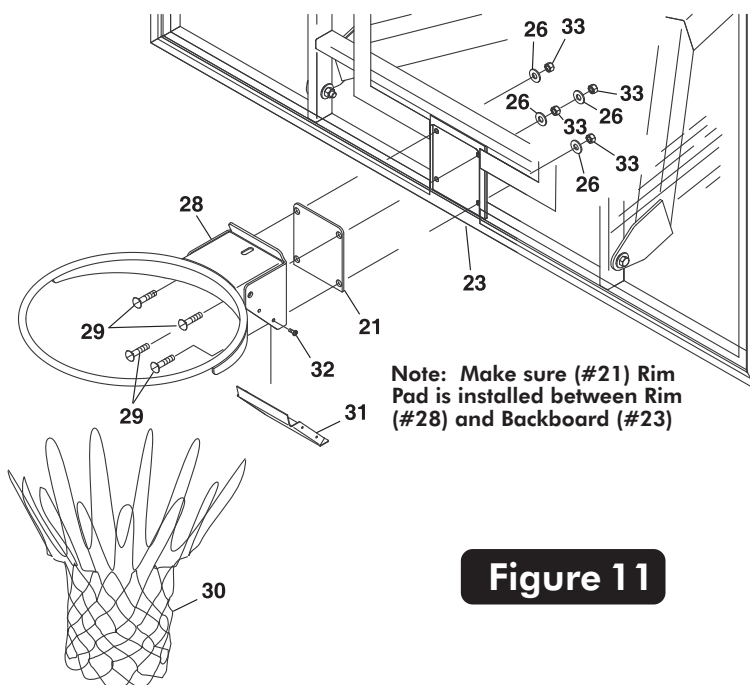

Figure 11
16. Mount Goal Assembly (#28) and Rim Pad (#21) to Backboard, as shown in **Figure 11**, using four bolts (#29), four washers (#26), and four locknuts (#33). Tighten fasteners, but leave them loose enough to level rim.
18. Attach Rim Cover Plate (#31) using four screws (#32). See Figure 11.